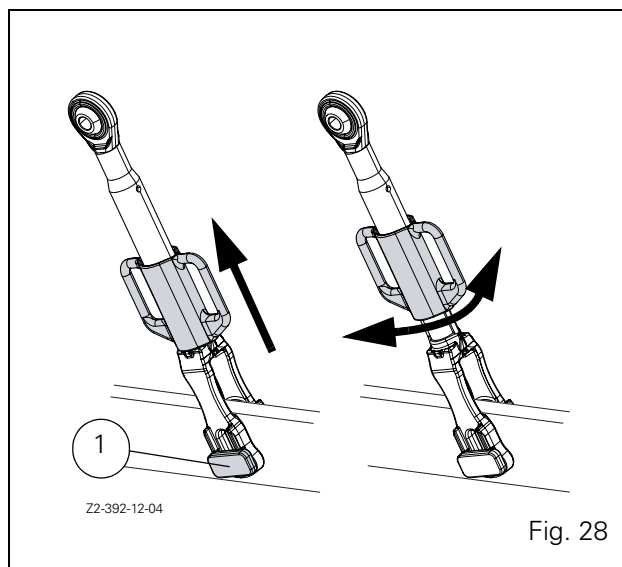

Fig. 28
- Adjusting the rod length (Fig. 28): Pull the handles upward then turn them to increase or reduce the length of the lift rods.
- Adjusting the lift rod/lower link: Three positions can be obtained by changing the position of the pin (1 Fig. 28).